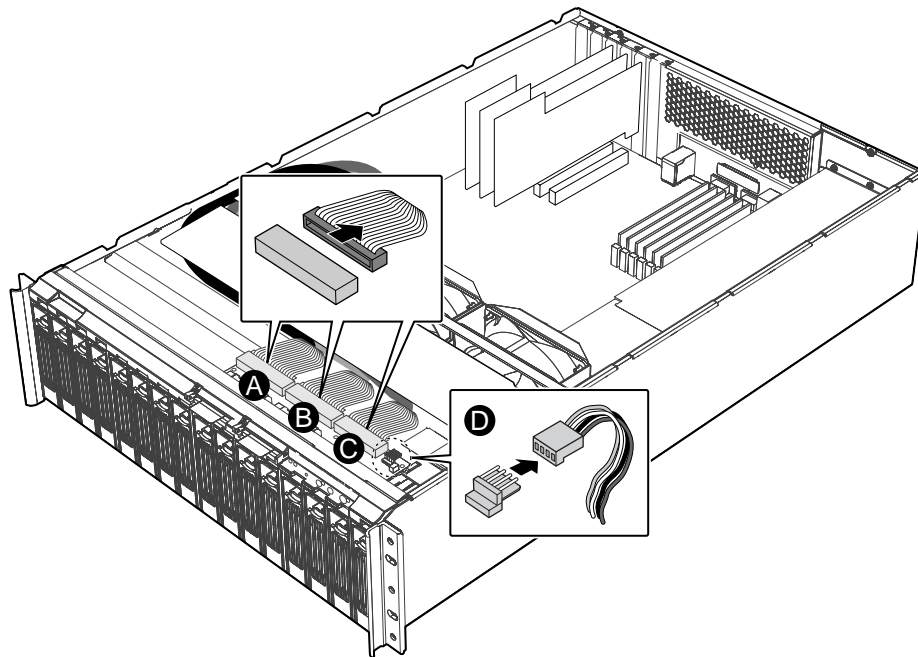

Figure 3. Removing Front Panel Cables
See Figure 3.
- C. Remove the Front Panel Cable labeled J1 from its connector receptacle on the front panel board. See Figure 3.